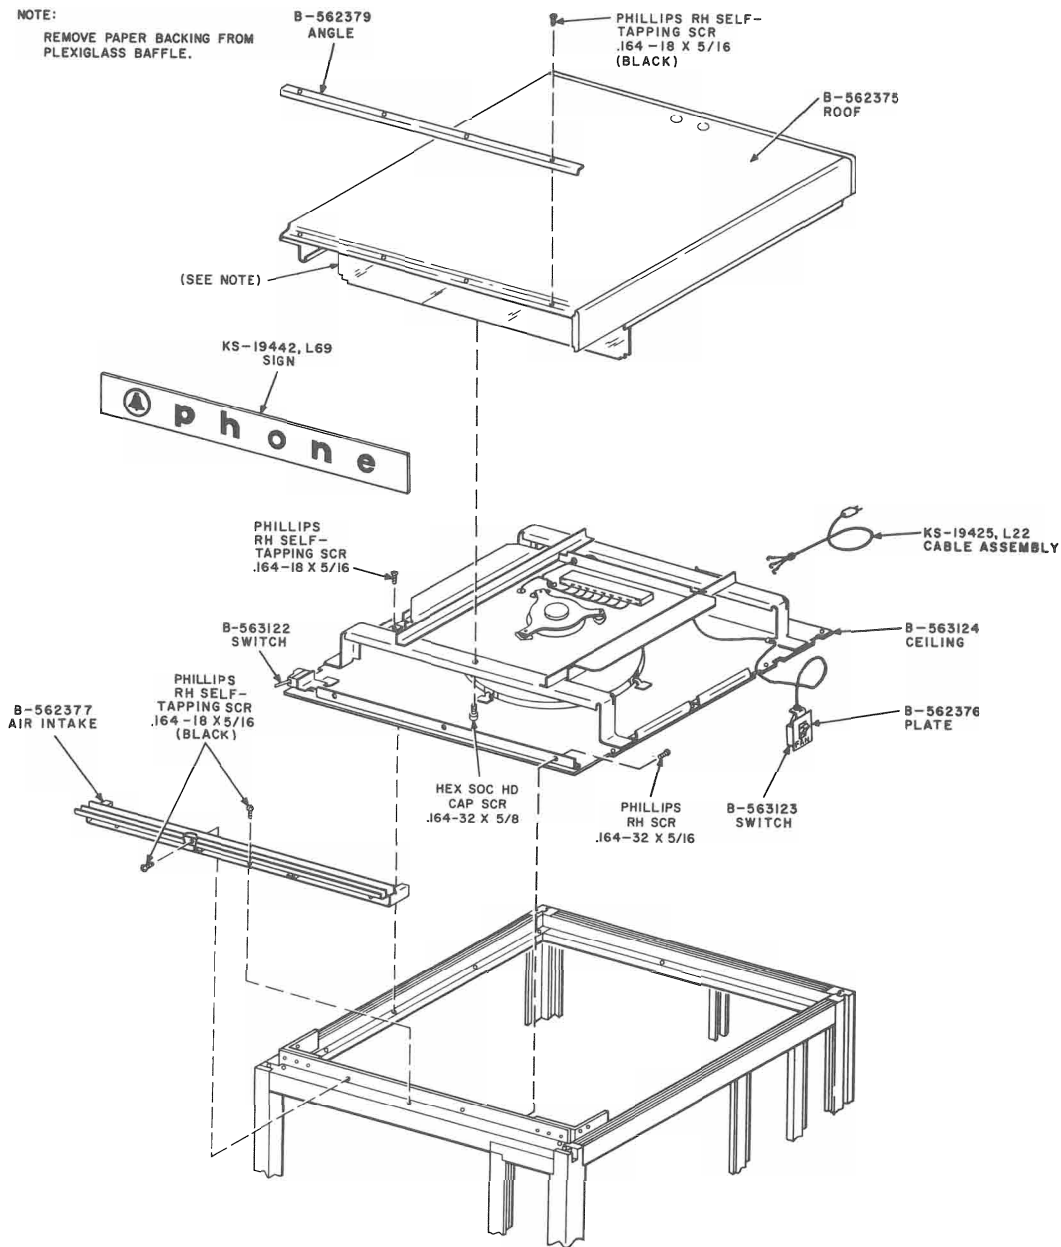

Fig. 21—Installation of Ceiling and Roof Assembly
- 4.12 Determine that the door operated switch (B-563122, Fig. 21) located in the left-front of the ceiling, properly actuates the blower unit. Access to the switch can be gained by removing the dome assembly.
- 4.16 Remove four .164-18 by 5/16 painted Phillips round head self-tapping screws which secure B-562379 angle to the roof (Fig. 21).
4.19 If it becomes necessary to remove the roof (Fig. 21):